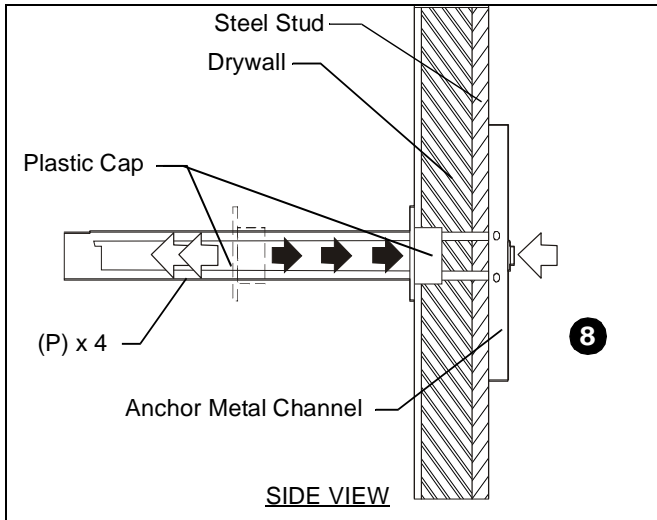

Figure 7
7. Holding plastic straps on anchor (P), pull anchor away from wall until channel rests flush behind wall making sure anchor channel is positioned vertically on stud. (See Figure 7)
8. Slide plastic cap on anchor (P) towards wall until flange of cap is flush with wall. (See Figure 7)